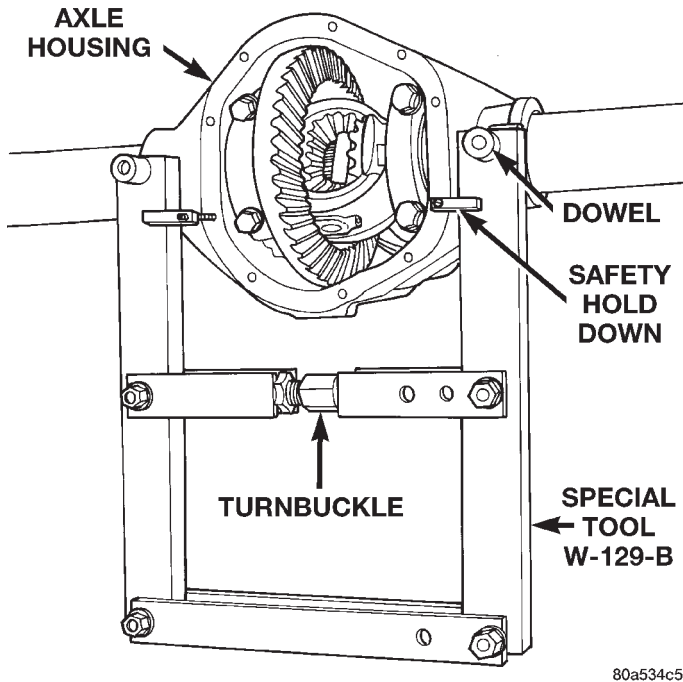

Fig. 32 Install Axle Housing Spreader
(1) Position Spreader W-129-B, utilizing some items from Adapter set 6987, with the tool dowel pins seated in the locating holes (Fig. 32). Install the hold-down clamps and tighten the tool turnbuckle finger-tight.